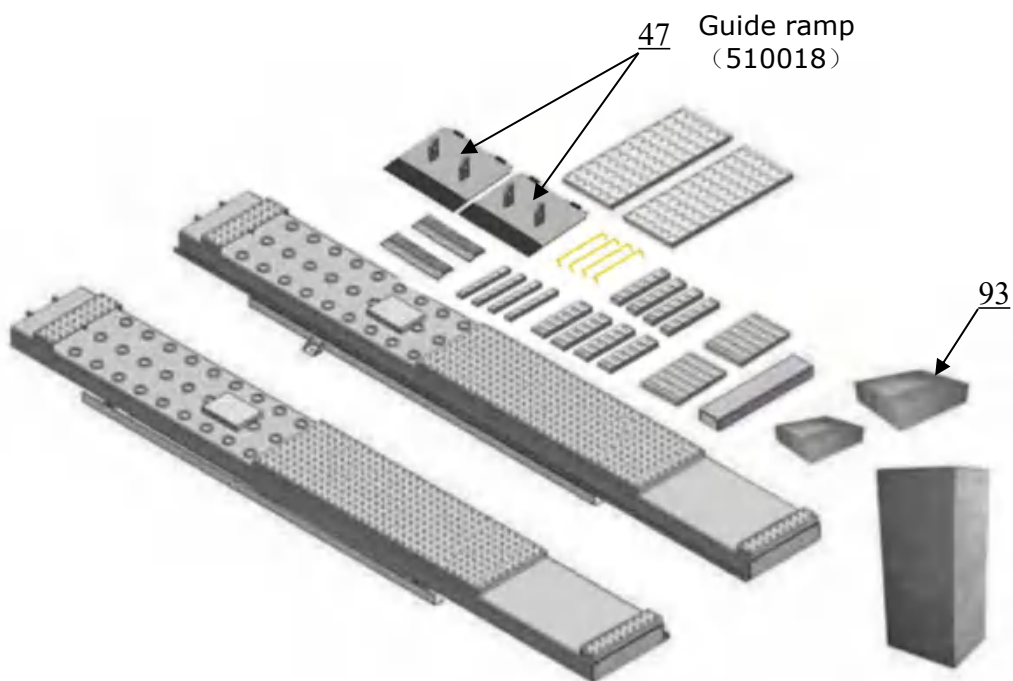
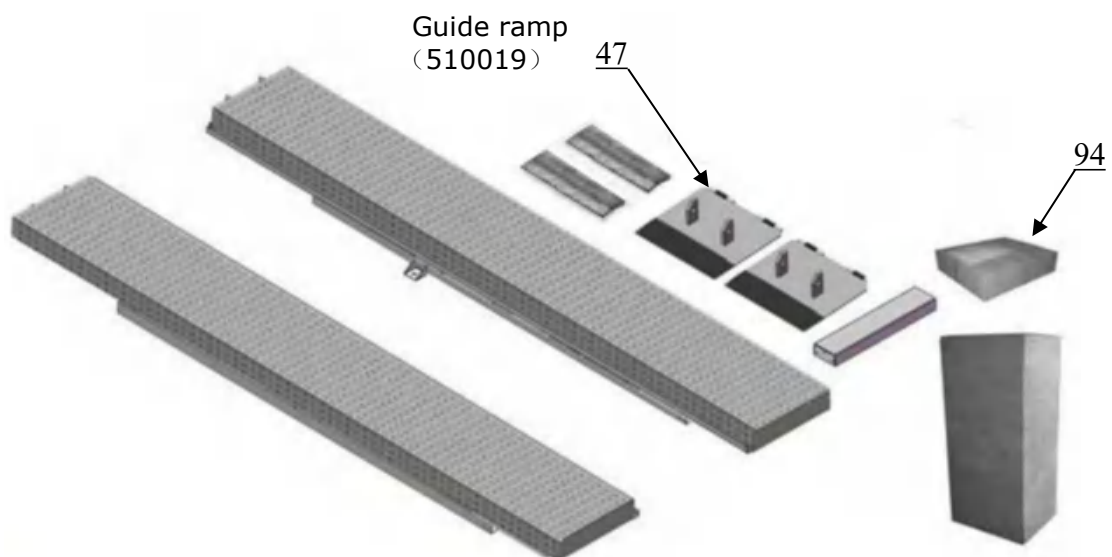

Fig.13
Fig.14
2.2 Parts for flush mount installation (See Fig.13, Fig.14)